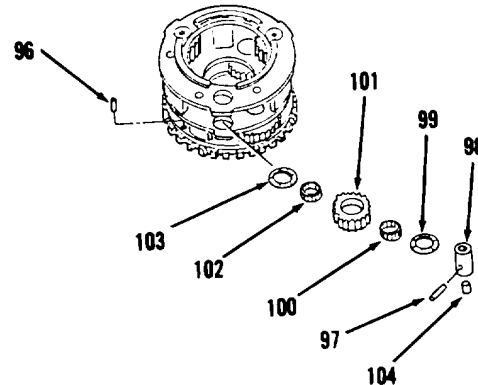

Figure 14-68.
50. Remove three pins (96, Figure 14-68).
51. Using punch and hammer, position three pins (97) and drive into shafts (98).
52. Remove three shafts (98), washers (99), rollers (100), gears (101), rollers (102) and washers (103).